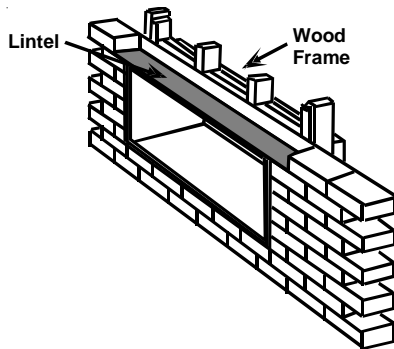

Figure 5 - Framing with Lintel
- If installed in a concrete or masonry wall, a lintel must be provided in the wall opening for support. **Do not use the wall sleeve as a lintel.** See Figure 5 for a typical lintel construction.
- When installed in the opening, the wall sleeve must be horizontally level from side to side and pitched (one quarter bubble in the sight glass) to the outside. **DO NOT SLOPE THE WALL SLEEVE TOWARD THE ROOM.** (Figure 5)